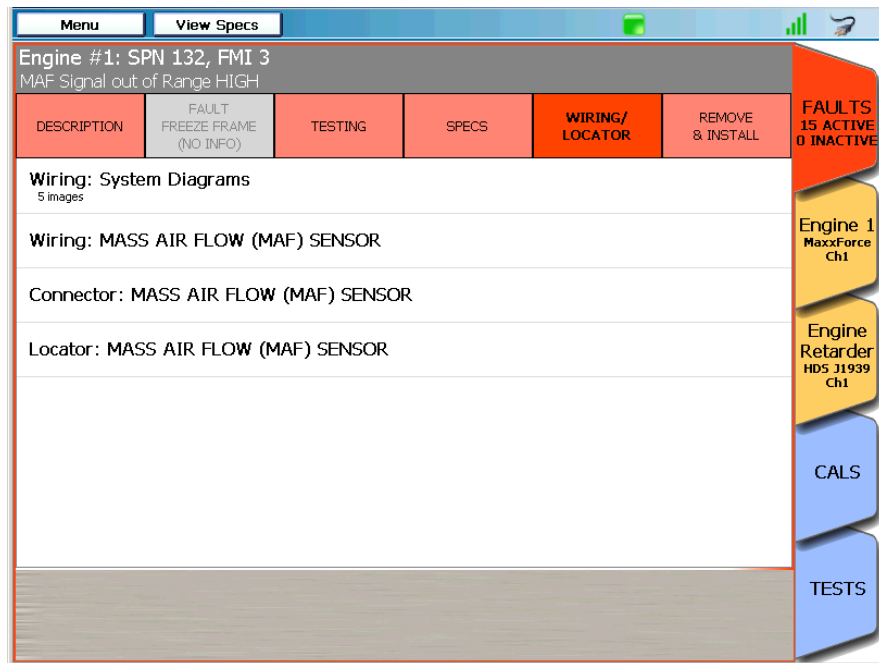

Figure 6.21 WIRING/LOCATOR Tab Activated
- Use the green **Back Arrow** to return to the list of wiring diagrams (Figure 6.21).